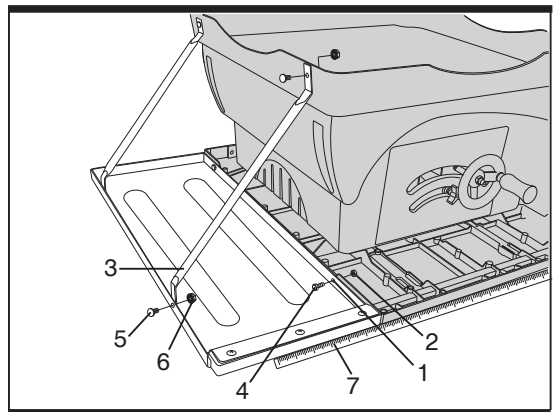

Fig 1
- 3) Place the right table extension next to the saw table, aligning the mounting holes (1).
- 4) Insert the bolts (4) through the mounting holes and attach the nuts (2).
- 5) Place a straight edge (7) or combination square in front of the saw table and table extension.
- 6) Adjust the nut (2) until the extension is aligned with the saw table. Tighten.
- 7) Place the extension supports (3) to the right table extension and secure them on the stand with bolts (5) and nuts (6).
- 8) Repeat these procedures for the left extension table (See fig. 1).